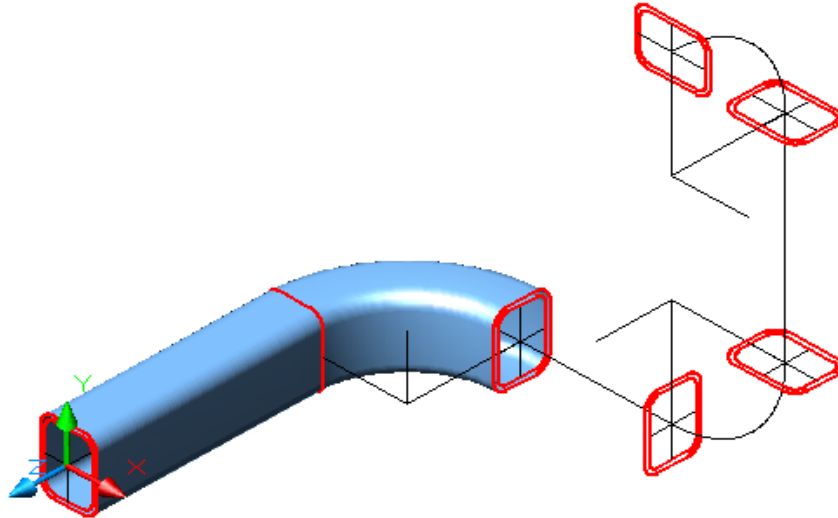

Figure Step 15
Step 15 Using what you just learned, construct the outside of the tube and change the layers of the surfaces until your model appear as shown in Figure Step 15.